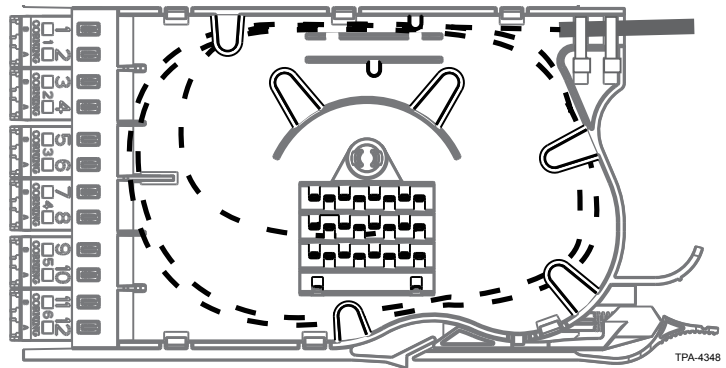

Figure 3
Step 3: Temporarily route two full loops of 250 μm fibers into cassette (or one loop of 900 μm fibers) as shown by the dashed line in Figure 3. Mark the splice point with a permanent marker and then cut fiber at mark in preparation for splicing. (Factory-installed pigtails are not shown for clarity.)